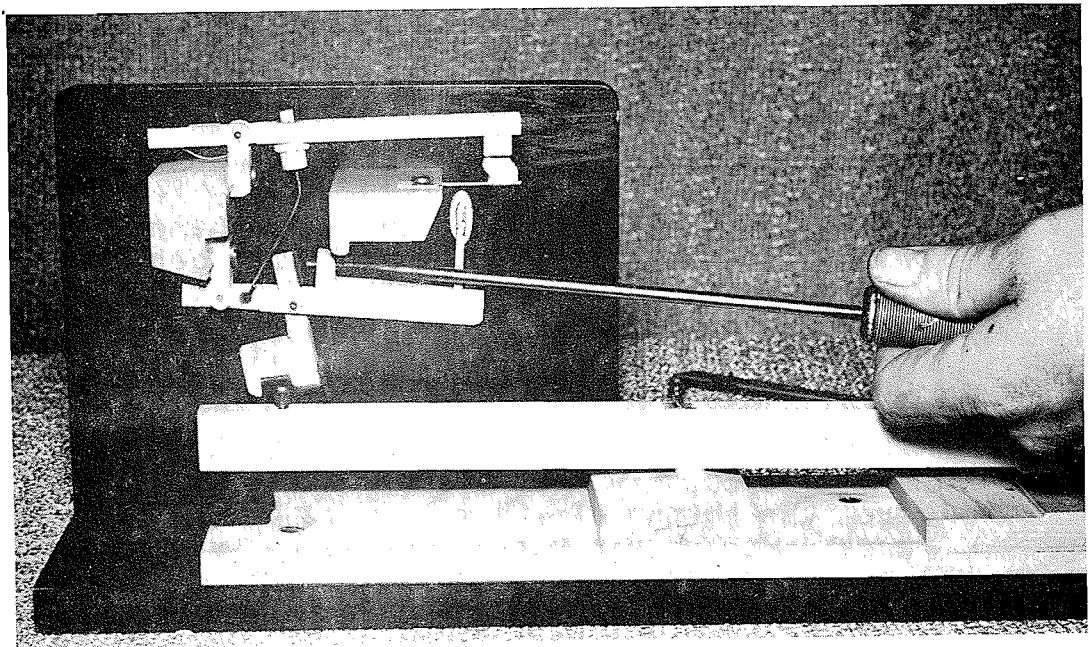

Fig. 120-L Adjusting Let-Off Screw
4. LET-OFF ADJUSTMENT (See Fig. 120-L.)